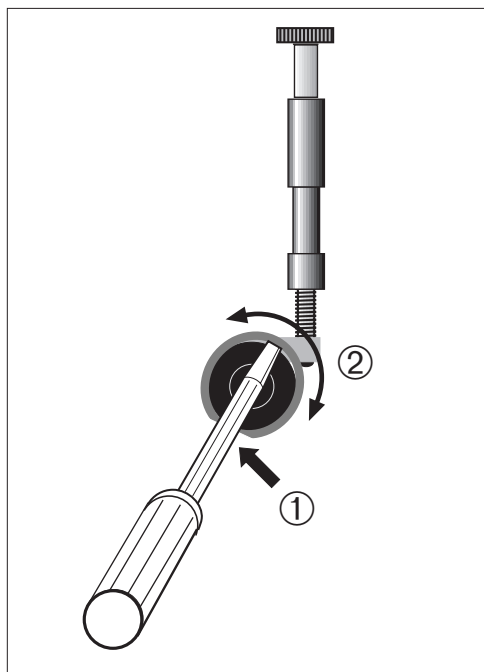

Figure 32. Standard O-Ring Gate
To adjust worn O-rings on a standard O-ring gate (Figure 32),
4. Insert a screwdriver into the slot on top of the gate assembly (Figure 32, ①).
5. Rotate the screwdriver clockwise, or counterclockwise, 360° (Figure 32, ②) to move the worn area of the O-ring about 0.125 to 0.25 in. (3 to 6 mm).